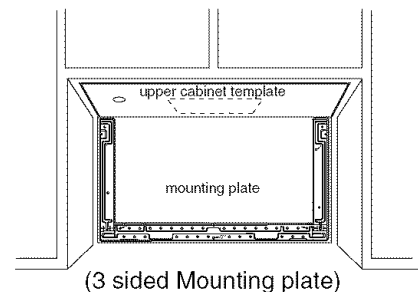

Figure 24
5. Measure the bottom of the upper cabinet frame. Trim the edges A, B and C on the upper cabinet template so that the template will fit on the bottom of the upper cabinet. If upper cabinet has a recessed frame, trim the template so it fits inside the recessed area. Align the centerline of the upper cabinet template with the centerline of the mounting plate, then securely tape or tack the upper cabinet template in place. See Figure 24.